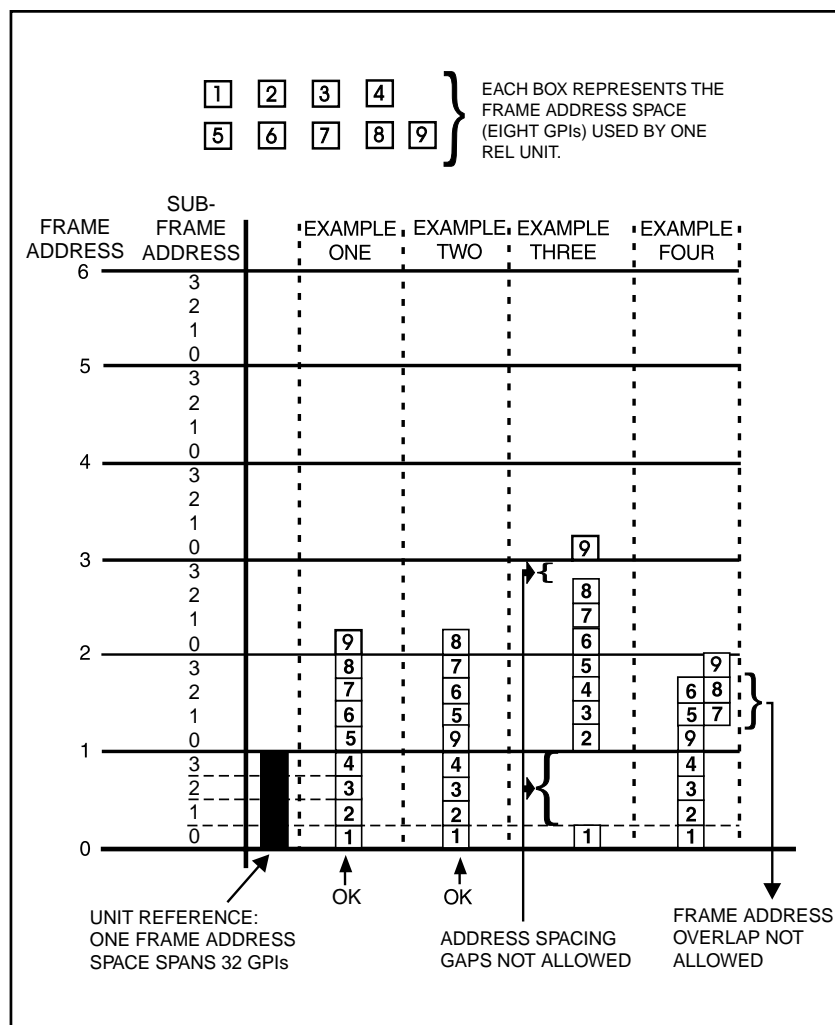

Figure 9. Relationship of Frame Address Space with Respect to Starting Address and the Relay Interface Units
NOTE: Figure 9 does not necessarily represent the order in which REL units are **physically** connected together (for that, refer to Figure 14).
Figure 9 **does** illustrate that frame address settings:
1. Start with frame address 0, which is associated with physical GPI 1, and work sequentially forward until all relay interface units are accounted for. Insure that frame address space is contiguous (see EXAMPLE ONE and TWO of Figure 9).
3. Do not overlap frame address spaces (see EXAMPLE FOUR in Figure 9).
4. Do not leave any open frame address spaces in the layout (see EXAMPLE THREE in Figure 9).
For explanatory purposes, the setup in Figure 9 is used again in other parts of the manual to illustrate various aspects of REL configuration and setup.